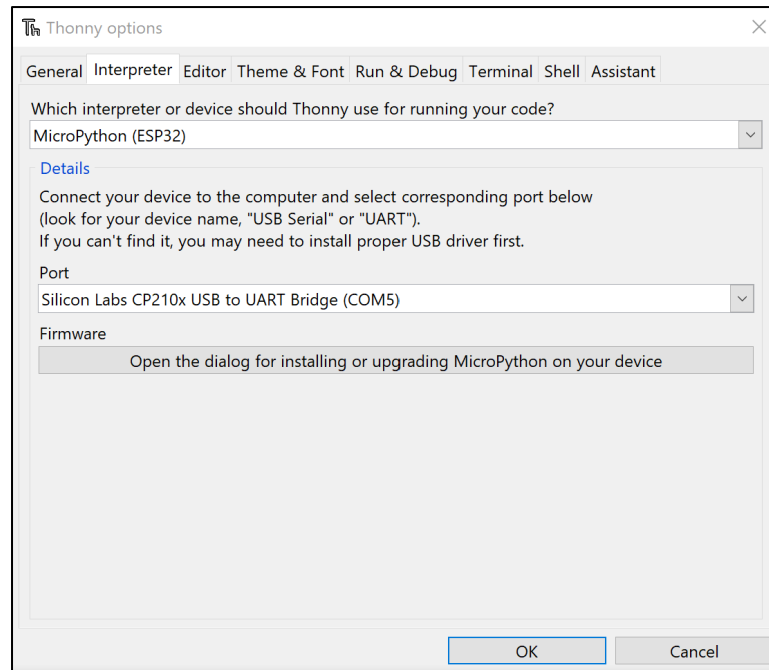

Figure 1. Set the interpreter and port
- Select the COM port to which your ESP32 is connected under “Port” (see Figure 1).